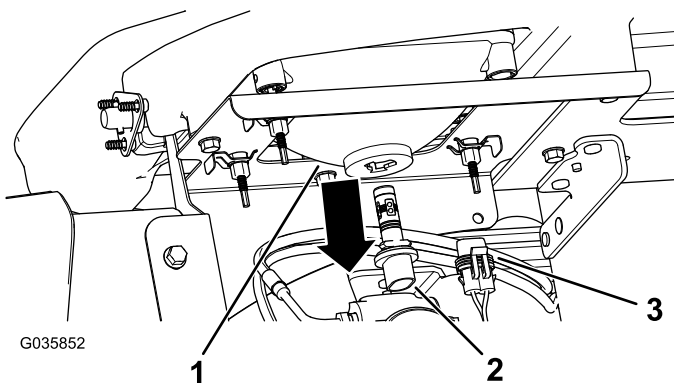

Figure 41
3. Disconnect the electrical connector for the harness from the connector of the lamp assembly at the back of the headlight housing (Figure 41).
4. Rotate the lamp assembly 1/4 turn counterclockwise and moving it rearward, out of the headlight housing (Figure 41).
5. Insert the new lamp assembly and headlight housing and align the tabs in the lamp assembly with the slots in the headlight housing (Figure 41).
6. Secure lamp assembly by turning it 1/4 turn clockwise (Figure 41).
7. Connect the electrical connector for the harness to the connector of the new lamp assembly (Figure 41).